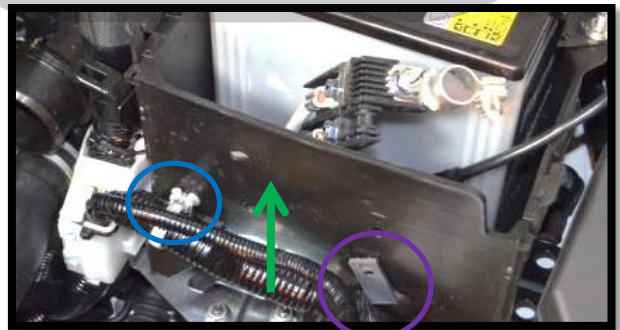

Figure 2c
- e) **Remove the front battery box panel.** Remove the MAF wiring harness clip (**blue circle Figure 2c**), and negative battery cable clip (**purple circle Figure 2c**), from the front battery box panel using needle nose pliers to compress the clips on the inside of the battery box. Then slide the panel upwards and remove it (**green arrow in Figure 2c**).